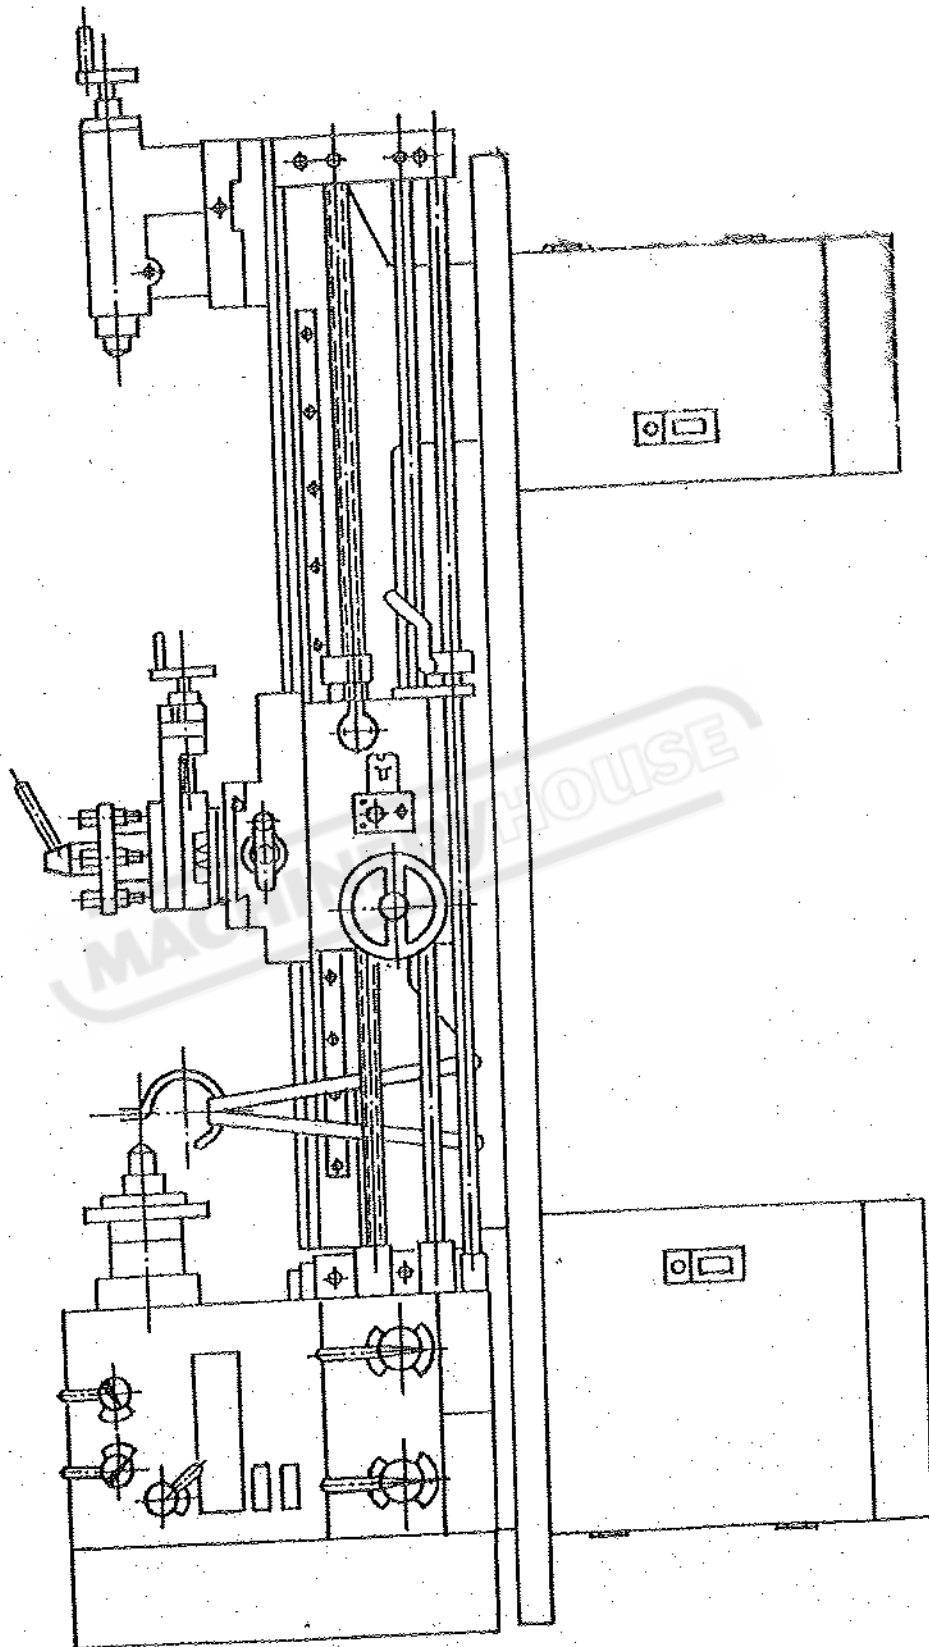

Fig. 2 Position to hoist the lathe
3.3 Sling lathe as shown in the hoisting Fig.2 When it is being transported.